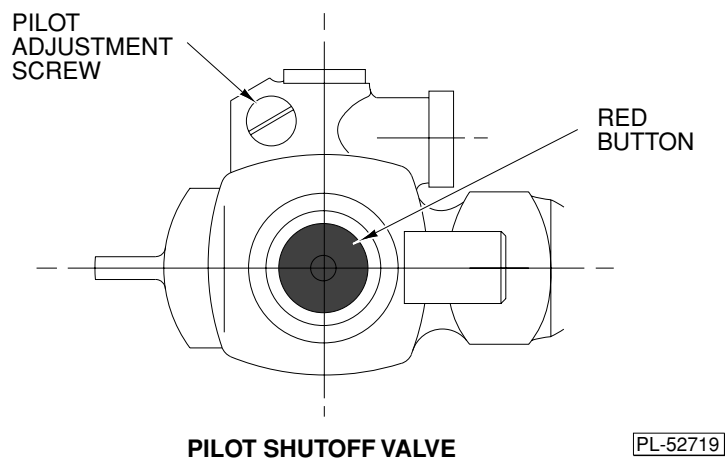

Fig. 3
5. Depress and hold in on the red button (Fig. 3) on the automatic shutoff valve while lighting the pilot burner.
Turn gas valve control knobs to OFF. Turn the manual shutoff valve to OFF. Shut off the pilot flame by removing the pilot adjustment cap and turning the adjusting screw on the pilot shutoff valve (Fig. 3).